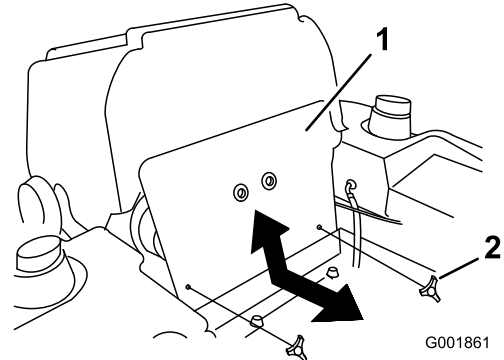

Figure 6
9. Install the front engine panel (Figure 6).